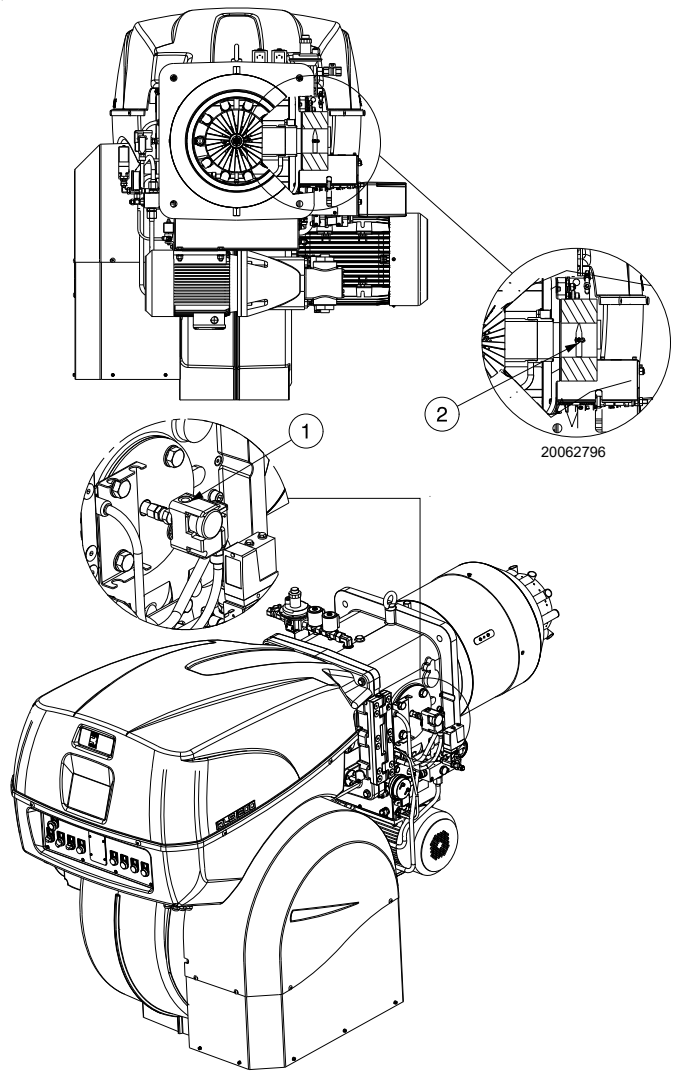

Fig. 24
Gas pressure measured at test point 1)(Fig. 24), with:
Pressure drop at gas butterfly valve 2)(Fig. 24) with maximum opening: 90°.
- subtract the combustion chamber pressure from the gas pressure measured at test point 1)(Fig. 24).
To calculate the required gas pressure at test point 1)(Fig. 24), set the maximum modulating output required from the burner operation:
- Read, on the right (column 1), the pressure at the test point 1)(Fig. 24).
pressure required at test point 1)(Fig. 24).